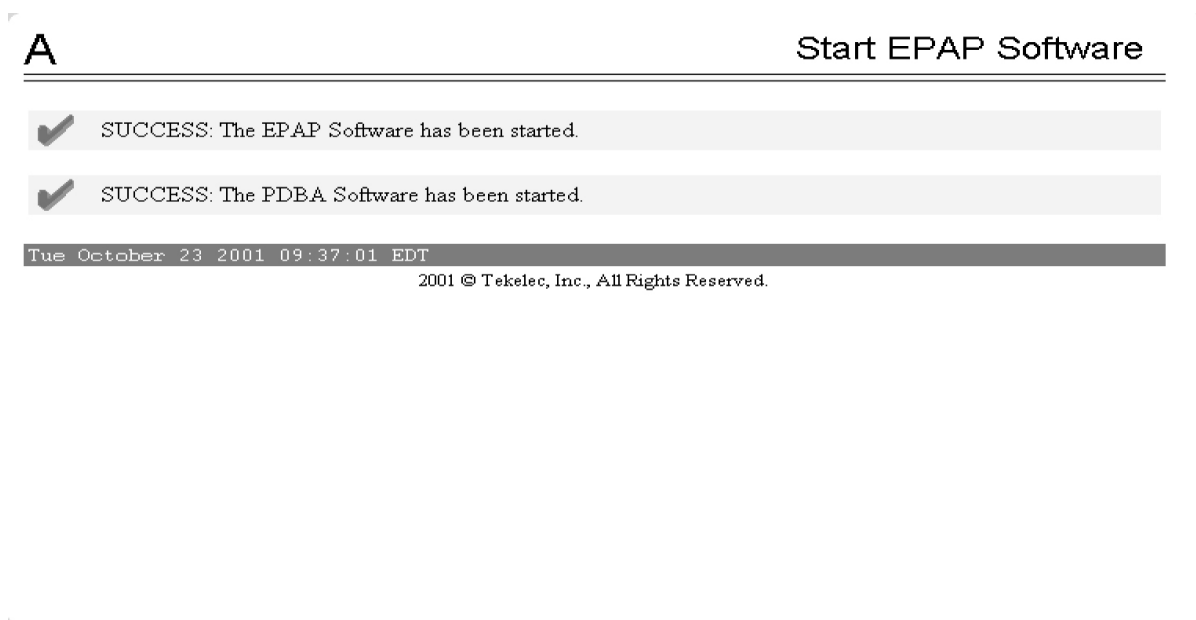

Figure 50: Start Software Completion Screen
8. Click the **Start EPAP Software** button to start the software. The screen shown in Figure 50: Start Software Completion Screen confirms that the software has started (the PDBA item appears only if performing this procedure on Side A):